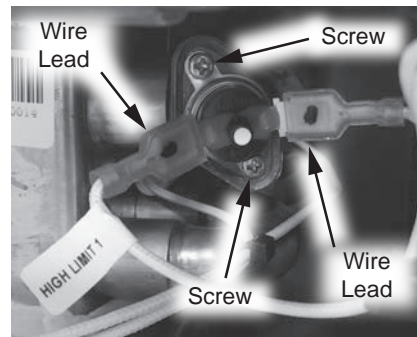

Figure 144 - Hi-Limit switch location
- 33** Locate the hi-limit switch on the primary heat exchanger (top right side of water heater). Disconnect the two wire leads from the hi-limit switch. See Figure 144.
- 34** Use a Phillips screwdriver to remove the two screws securing the hi-limit switch to the heat exchanger. Place screws aside in a safe place for reinstallation. See Figure 144.